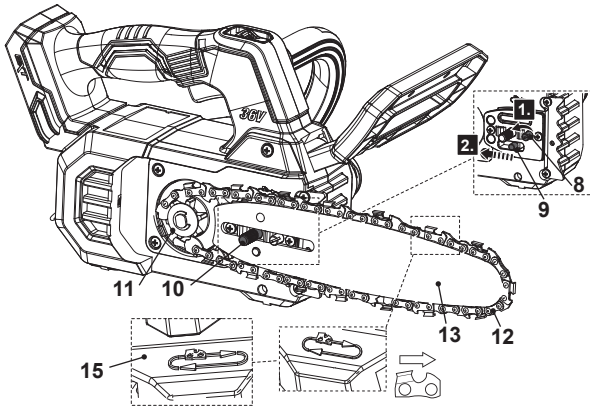

Fig. 3
**WARNING!** The direction of the saw chain ‘cutters’ must be same as indicated by the symbol and arrow on the chain saw cover (15)!
5. Align the saw chain (12) and guide bar (13) assembly with the drive sprocket (11) and the mounting bolt (10). Lay the saw chain (12) around the drive sprocket (11) and then lower the guide bar (13) to install it to the mounting bolt (10) (Fig. 3).
6. Make sure the tension pin (9) is inserted into the lower hole on the guide bar (13). Screwing the tension screw (8) anticlockwise to adjust the tension pin (9) to the end of slot with one suitable screwdriver (Fig. 3, steps 1, 2).